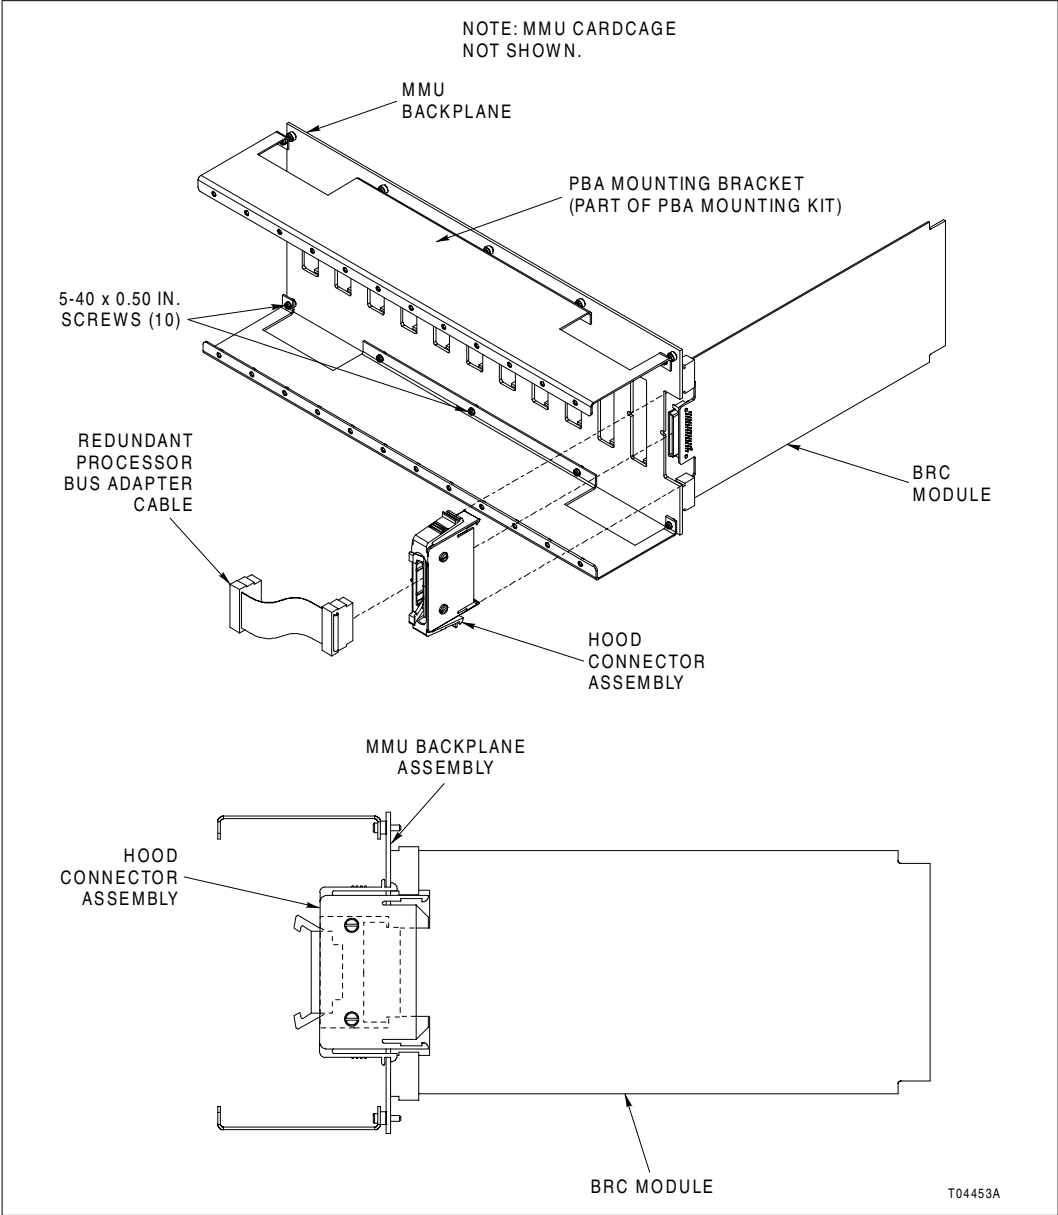

Figure 3-5. BRC Redundancy Kit Installation
2. Insert one Harmony I/O hood connector to the P3 connector of each BRC module. Refer to Figure 3-5.